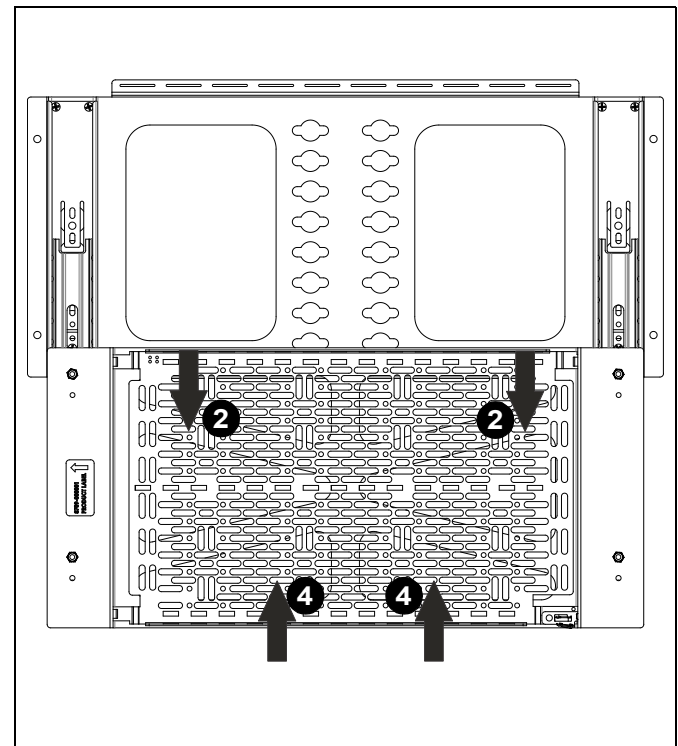

Figure 10
2. Pull component panel out away from display. (See Figure 10)
4. Push component panel back into place until it "clicks" back into its original position. (See Figure 10)